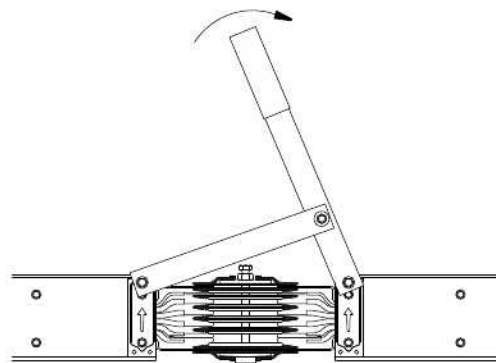

Figure 11.1 SXBAT
9.1.4 Slide the busway sections together using SENTRON Busway Assembly Tool Catalog #SXBAT (Figure 11.1). Continue assembly until the holes in the joint cover align with the holes in the joint support.